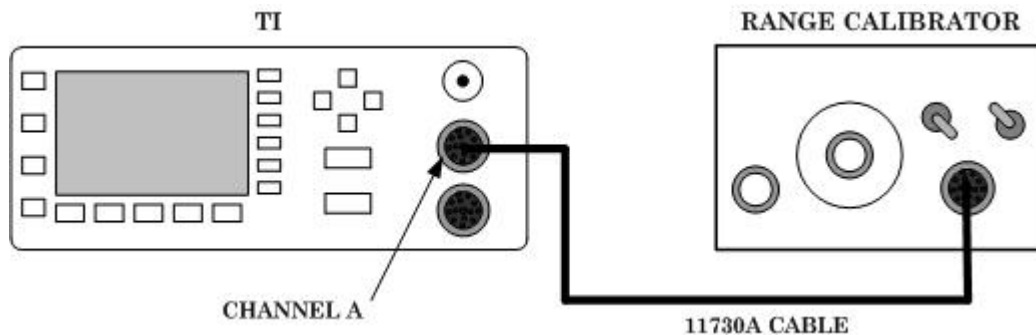

Figure 1. Zero test equipment connection.
- (1) Set TI **POWER** and range calibrator **LINE** switches to off position.
- (2) Connect equipment as shown in figure 1.
- (1) Press TI **POWER** and range calibrator **LINE** switches to off position.
- (3) Press TI keys as listed in (a) through (c) below:
- (4) Set range calibrator controls as listed in (a) through (d) below: